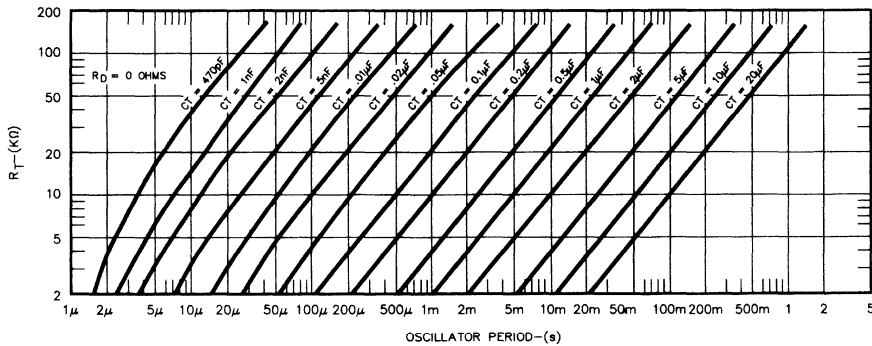

FIGURE 7. OSCILLATOR PERIOD VS.  $R_T$  AND  $C_T$
1. With  $R_D = 0\Omega$  (pin 11 shorted to ground) select values for  $R_T$  and  $C_T$  from Figure 7 to give the desired oscillator period. Remember that the frequency at each driver output is half the oscillator frequency, and the frequency at the  $+V_C$  terminal is the same as the oscillator frequency.